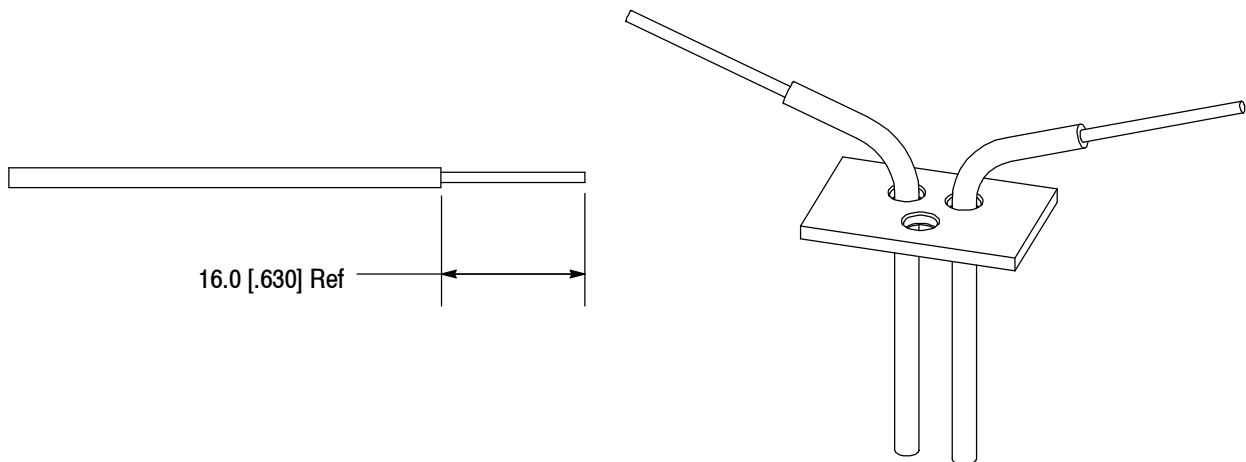

Figure 11
2. The recommended wire strip length is provided in Figure 11. If the optional strain relief is required, insert both wires through the holes in the strain relief plate.